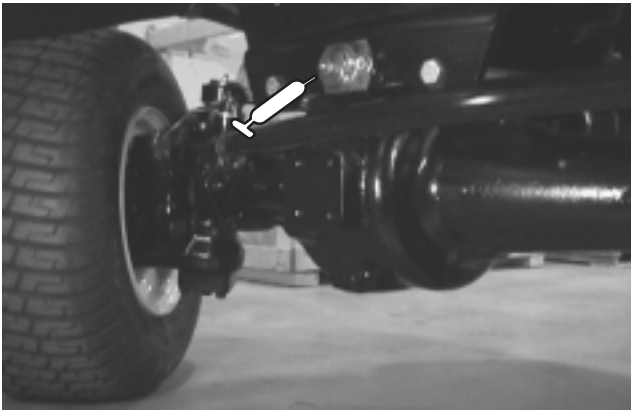

Figure 30
4 wheel drive machines only—center pivot (1) (Fig. 30); tie rod assembly (2), king pin bushings (2) **The top fitting on the king pin should only be lubricated annually (2 pumps)**, cylinder ends (2) (Fig. 31).